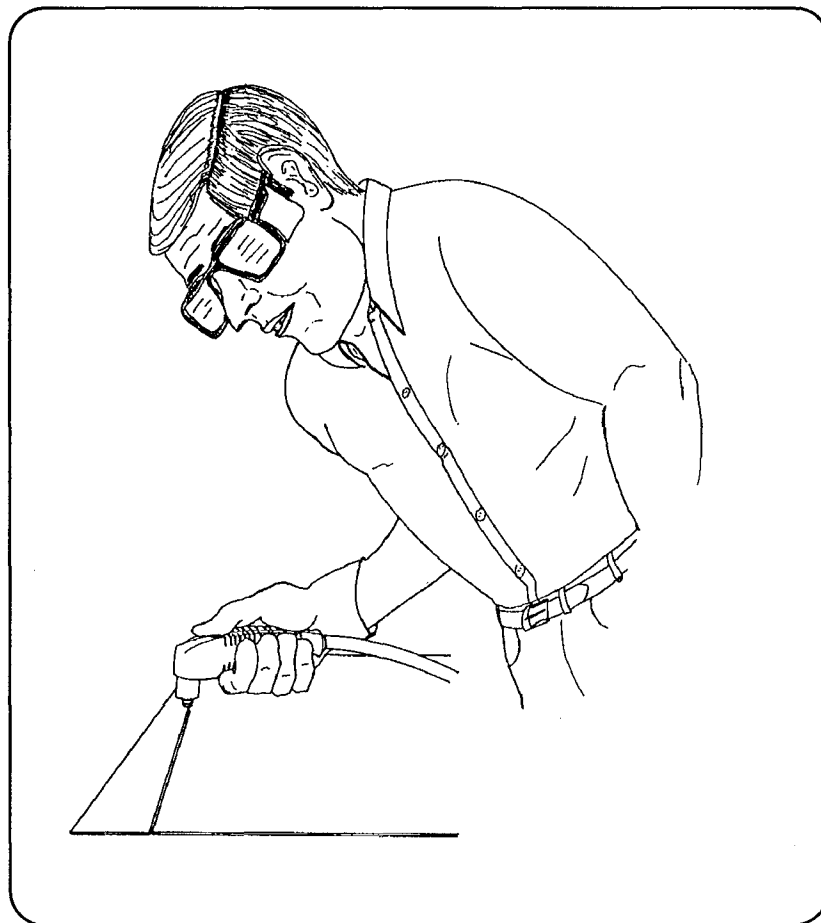

Figure 10 Dragging the Torch
- Hold the torch nozzle (tip) at a vertical position and watch the arc as it cuts along the line (Fig. 10). By lightly dragging the nozzle on the workpiece, you can maintain a steady cut. For straight-line cuts, use any straight edge as a guide.